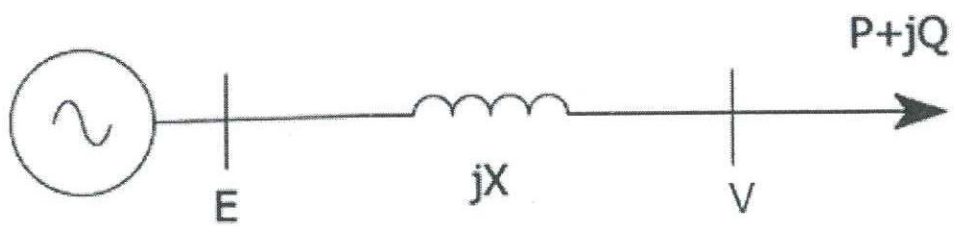

Figure Q5. 2-bus system
- b) Consider the 2-bus system shown in Figure Q5. Its generator bus voltage is  $E\angle\delta$  and load bus voltage is  $V\angle 0^\circ$ . The line reactance is  $X$  and line resistance is negligible. The load consumes an active power of  $P$  and a reactive power of  $Q$ . All parameters are given in SI units. Take the base voltage as  $E$  and base impedance as  $X$  for the system.
- c) Consider the same 2-bus system in Figure Q5. The maximum per-unit real power ( $P_{MAX}$ ) that can be delivered to the load bus can be expressed as